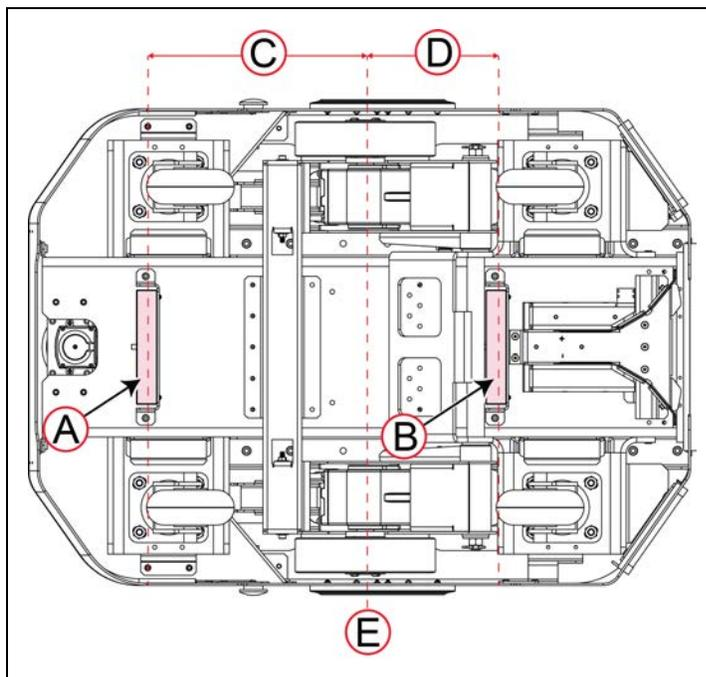

Figure 9-13 Installation Location of HAPS Sensors on the Underside of the LD-250
As shown in Figure 9-13, The front HAPS sensor is located 302.4 mm (11.9 inches) in front of the center line (E), while the rear sensor is located 204.6 mm (8 inches) behind the LD-250's center line (E).
1. Use a 4 mm hex key and the two supplied M5 socket head cap screws and washers to install the sensor marked **Front** at location [(A) in Figure 9-13].
8. (Dual Only) Use a 4 mm hex key and the two supplied M5 socket head cap screws and washers to install the sensor marked **Rear** at location [(B in Figure 9-13)].